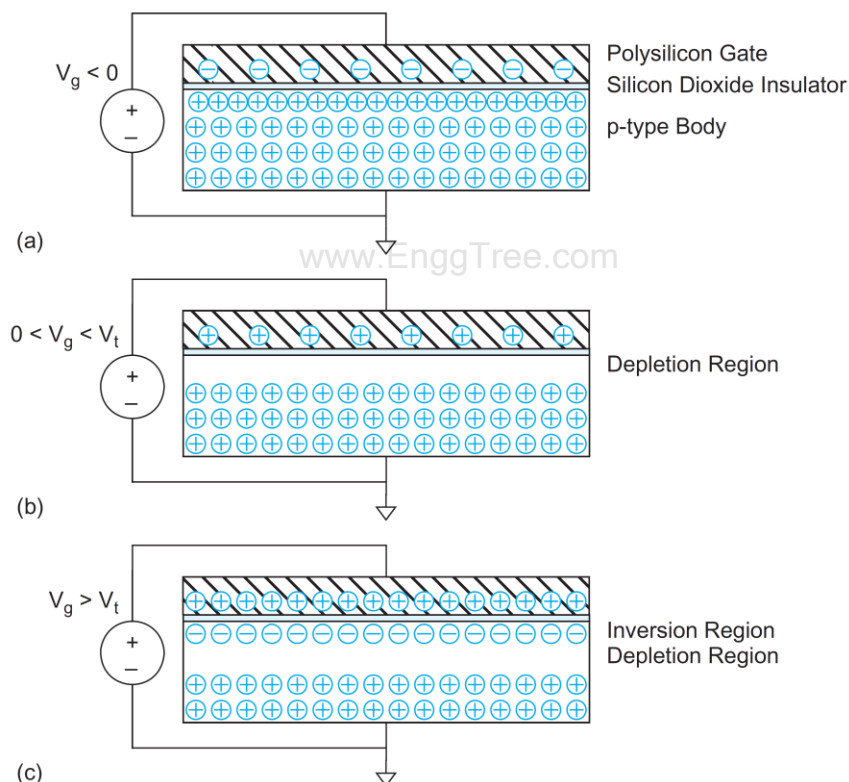

Figure 2: MOS structure demonstrating (a) accumulation, (b) depletion, and (c) inversion layer
- ✓ Figure 2 shows a simple MOS structure. The top layer of the structure is a good conductor called the gate.
- ✓ The figure 2 shows a p-type body, in which the carriers are holes. The body is grounded and voltage is applied to the gate.
- ✓ In Figure 2(a), when a negative voltage is applied to the gate, negative charges are formed on the gate.
- ✓ In Figure 2(b), when a small positive voltage is applied to the gate, positive charges are formed on the gate.
- ✓ In Figure 2(c), when a higher positive potential greater than threshold voltage (V_t) is applied, more positive charges are attracted to the gate.